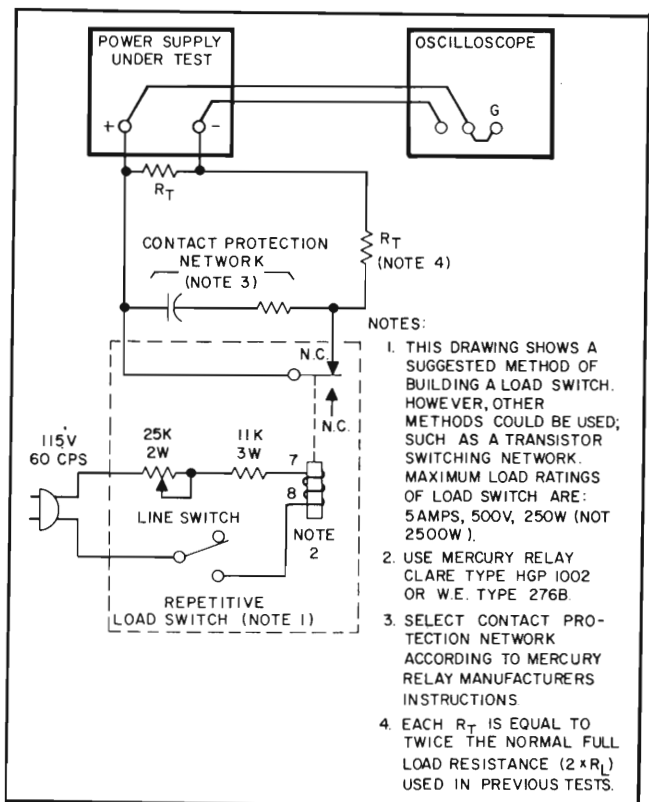

Figure 5-5. Load Transient Recovery Time, Test Setup
5-30 Measurement Techniques. Care must be taken in switching the load resistance on and off. A hand-operated switch in series with the load is not adequate since the resulting one-shot displays are difficult to observe on most oscilloscopes and the arc energy occurring during switching completely masks the display with a noise burst. Transistor load switching devices are expensive if reasonably rapid load current changes are to be achieved. Instead, a mercury-wetted relay should be used for loading and unloading the supply. Connect it in the load switching circuit shown in Figure 5-5. When this load switch is connected to a 60 Hz ac input, the mercury-wetted relay will open and close 60 times per second. The 25K control adjusts the duty cycle of the load current switching to reduce jitter in the oscilloscope display. This relay may also be used with a 50 Hz ac input.
- a. Connect the test setup shown in Figure 5-5. Both load resistors (R_L) are twice the normal value of a full load resistance.